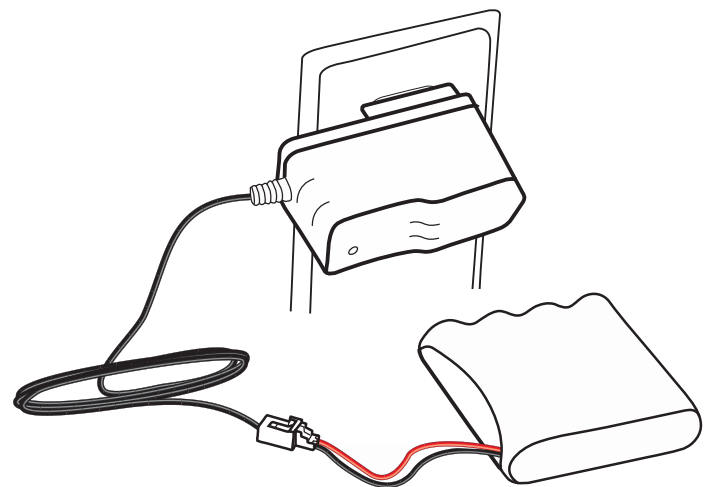

Figure 4 - Charging the 10k mAh Battery Pack
- If you are using an Accessory Pack with the 10K mAh Battery Pack, the process is similar. Just connect the battery to the AC adapter and then plug the adapter into the electrical receptacle (see "Figure 4 - Charging the 10k mAh Battery Pack".)